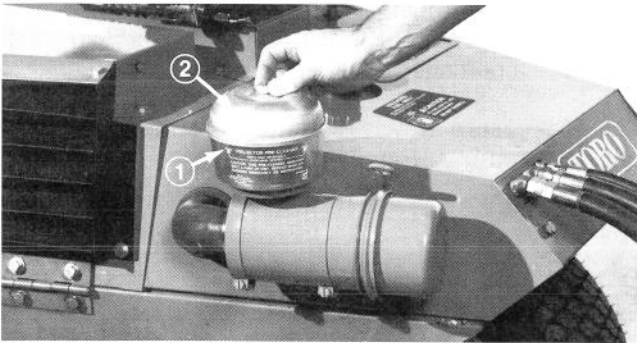

Figure 63
dust to build up above level marks on outside of bowl (Fig. 63).
1. Loosen thumb screw until cover and bowl can be removed (Fig. 63). Separate cover and bowl.